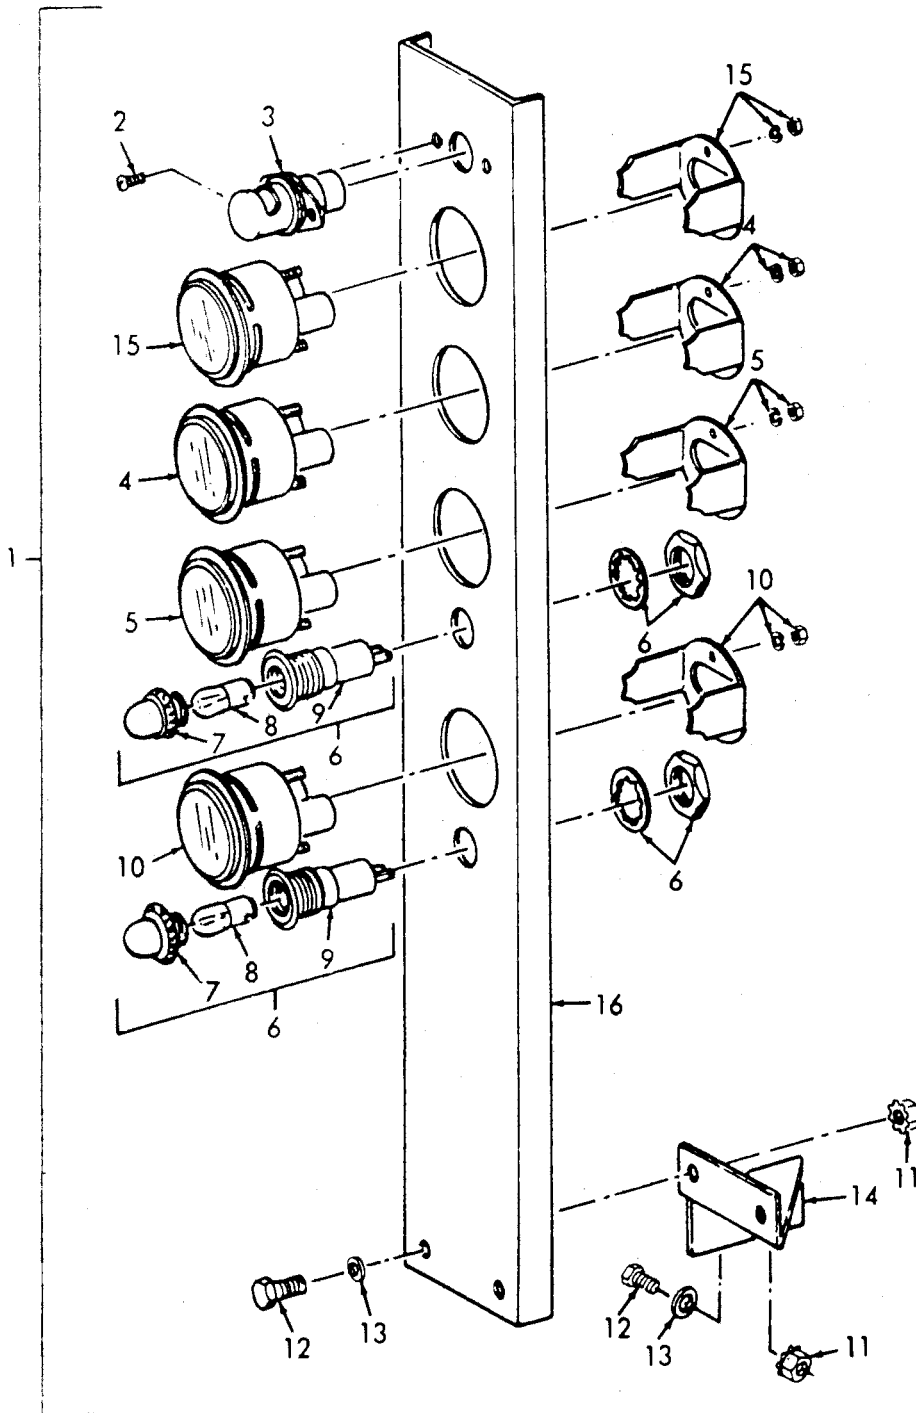

Figure 18-10. Engine Control Panel, Right Hand.
- a. Removal. Refer to figures 18-10 and 18-11 for the removal of the right hand side and left hand side engine control panels.
- b. Installation. Refer to figures 18-10 and 18-11 for the installation of the right hand side and left hand side engine control panels.
LEGEND FOR FIGURE 18-10: